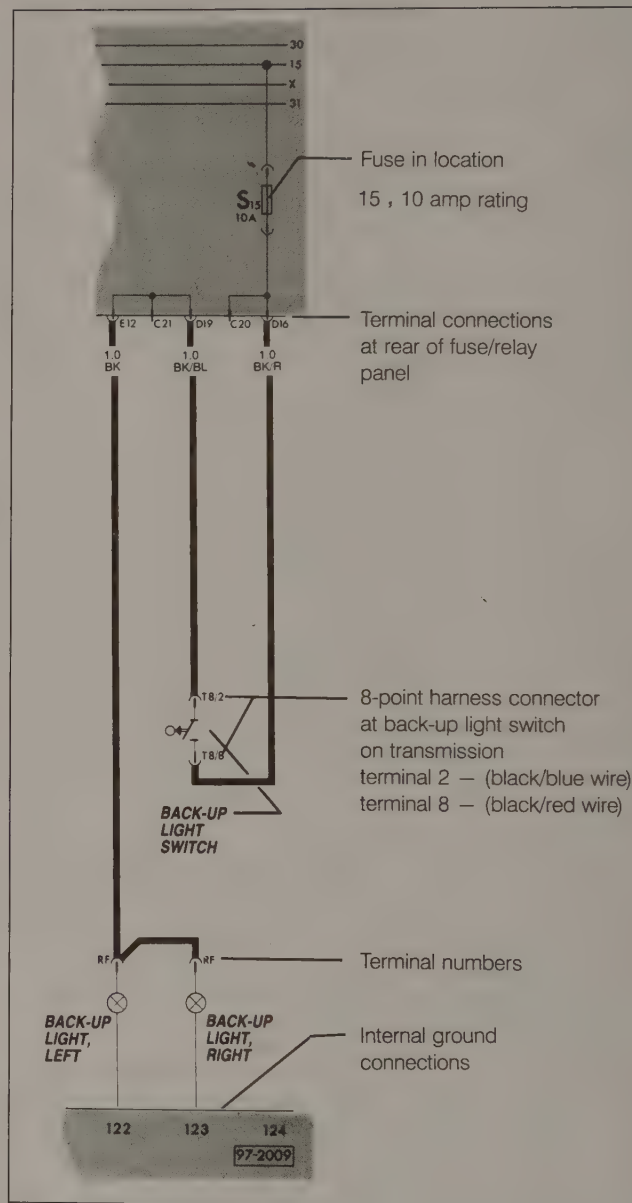

Fig. 3-3. Sample current flow diagram. See procedure **To troubleshoot a circuit** for example of troubleshooting a circuit.
Electric current is logical in its flow, always moving from the voltage source toward ground. Keeping this in mind, electrical faults can be located through a process of elimination. Fig. 3-3 is used to illustrate the logic used in locating a sample fault: back-up lights which do not light.
2. Check the fuse. In the circuit example shown in Fig. 3-3, the circuit receives power through fuse 15. Fuse and relay locations are given in **13. Fuse/Relay Panel**. A fuse that repeatedly fails indicates an unusually high current flow, probably caused by a damaged wire, a faulty component, or a short directly to ground.